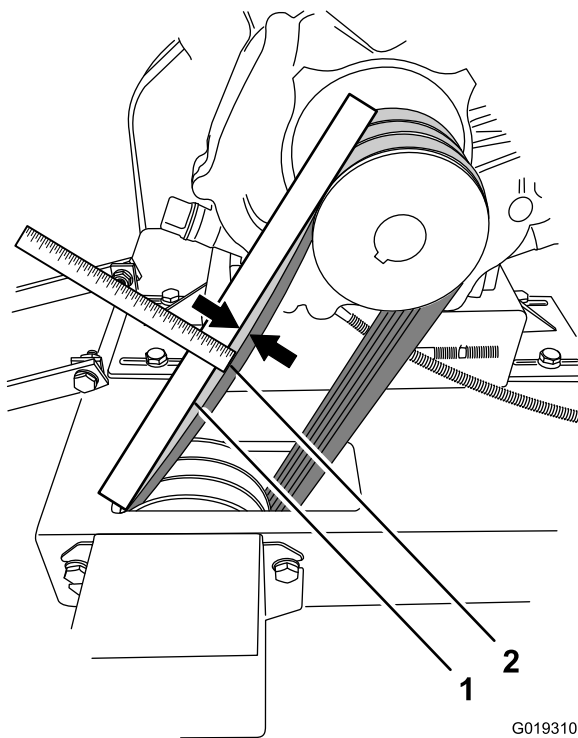

Figure 51
- A. Lay a straightedge on each belt and across the drive shaft and arbor pulleys (Figure 51).
- B. With your finger, push down on the drive belt, midway between the pulleys (Figure 51).
- C. Each belt should deflect approximately 5 mm at 2 kg (0.19 inch at 4.2 lb) from the straight edge (Figure 51). If the belt tension is too low or too high, adjust the belt tension; refer to Adjusting the Drive Belt Tension (page 35).